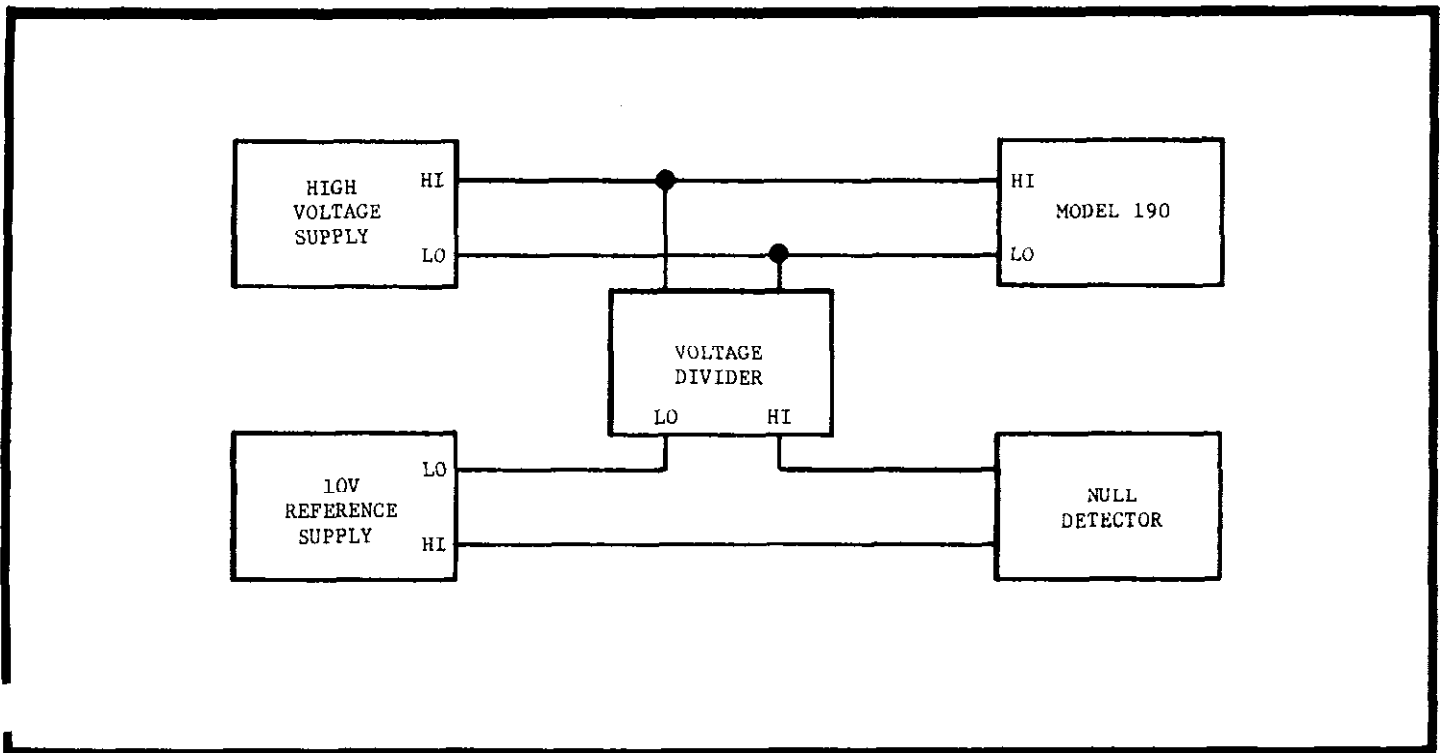

FIGURE 13. 100 VDC Voltage Calibration.
a) Set up test equipment as in Figure 13.
b) Voltage Source (D) should be adjusted to obtain a null reading on Null Detector (C) to within ± 1 microvolt. Voltage Divider (B) should be set to 1:10.
b) Voltage Source (D) should be adjusted to obtain a null reading on Null Detector (C) to within ± 1 microvolt. Voltage Divider (B) should be set to 1:100.
3. Connect Resistance Source (F) to input terminals of Model 190. Resistance enclosure (shield) should be connected to the CASE terminal.